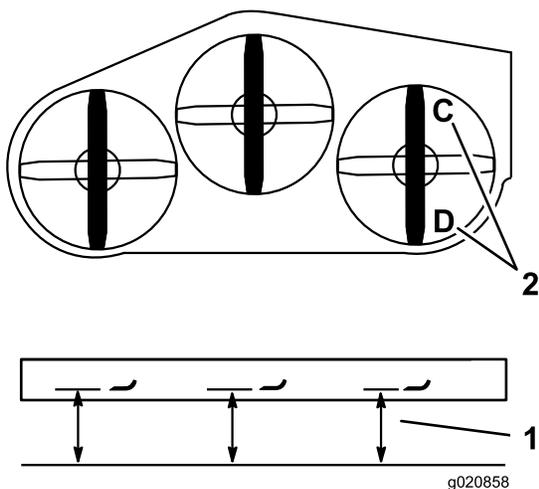

Figure 84
1. Position the right blade front-to-rear (Figure 84).
2. Measure the right blade at the **C** location, from a level surface to the cutting edge of the blade tip and record this measurement (Figure 84).
3. Measure the right blade at the **D** location, from a level surface to the cutting edge of the blade tip and record this measurement (Figure 84).
4. The mower blade should be a 6 to 10 mm (1/4 to 3/8 inch) lower at position **C** than at position **D** (Figure 84). If it is not correct, proceed to the following steps.